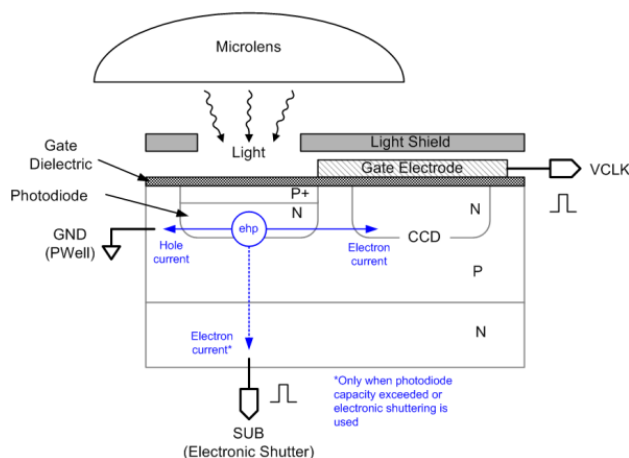

Figure 1. Interline CCD Structure and Operation
While Qp is on, the gate dielectric (see Figure 1) will experience an electric field (E) related to the SUB and VCLK voltages and the gate dielectric thickness (tOX) as shown in Equation 1.